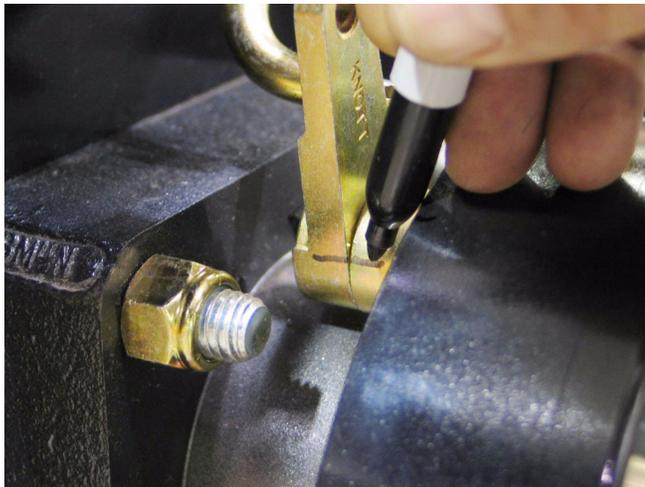

Figure 21.25
21.25. Match-mark the initial position of the arm to provide a point of reference. See Figure 21.25.